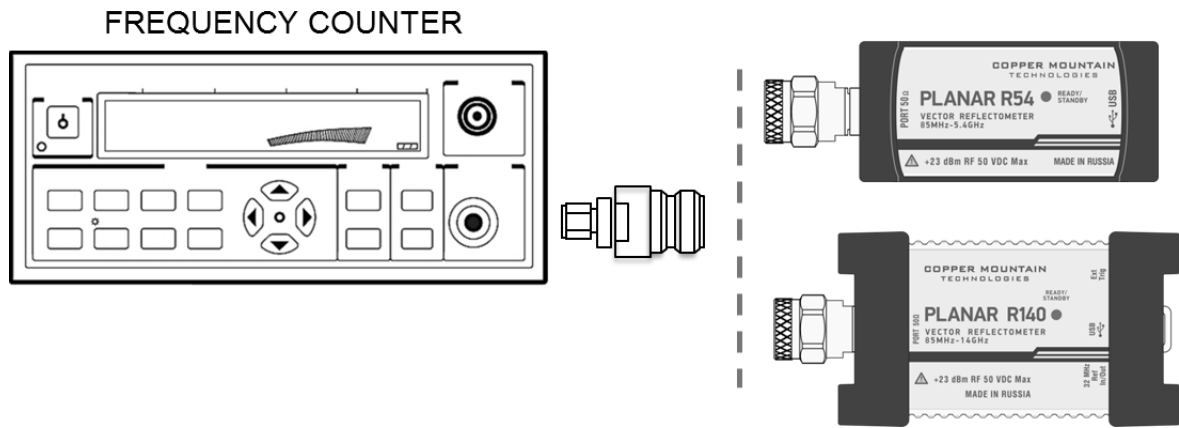

Figure 3. Measurement setup for the CW frequency accuracy test
6.3.1.3 Connect the frequency counter to the Reflectometer test port. If necessary, use the 03S105-K00S3 coaxial adapter. See the measurement setup in Figure 3.